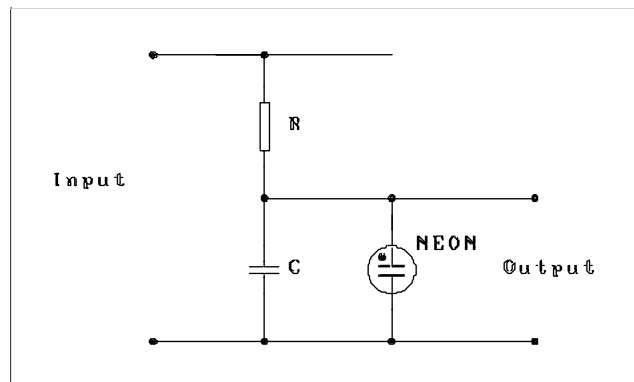

Figure 1.
The neon is connected as a relaxation oscillator as shown in Figure 1. The neon tube itself can be seen simply to contain two electrodes in parallel to each other in a small glass bulb. The air has been replaced by neon gas. When a potential difference (PD) below a critical value is applied across the electrodes the neon gas will ionize but conduct almost no current. As the PD approaches the critical value the neon gas glows with its characteristic orange/pink colour. At about 70V (called the striking voltage) current will flow across the electrodes. The PD must drop to about 60V (the extinction voltage) for current to stop flowing.
The operation of the relaxation oscillator circuit in Fig. 1 can now be seen. When power is applied the capacitor starts to charge.